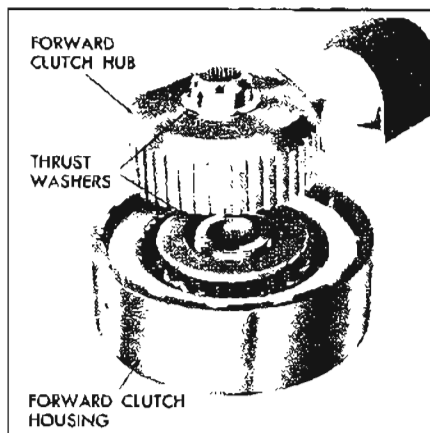

Figure 5-620
8. Install the forward clutch hub washers. Retain with petrolatum. See Figure 5-620.